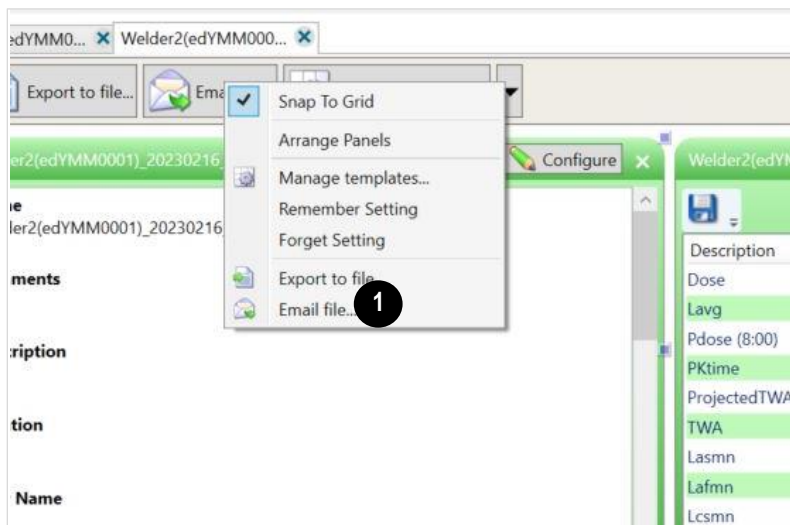

Figure 1-50: Edge and emailing data
1. To email data, click the **Panel Options** drop-down (see ❶ of Figure 1-50) and click **Email file...**